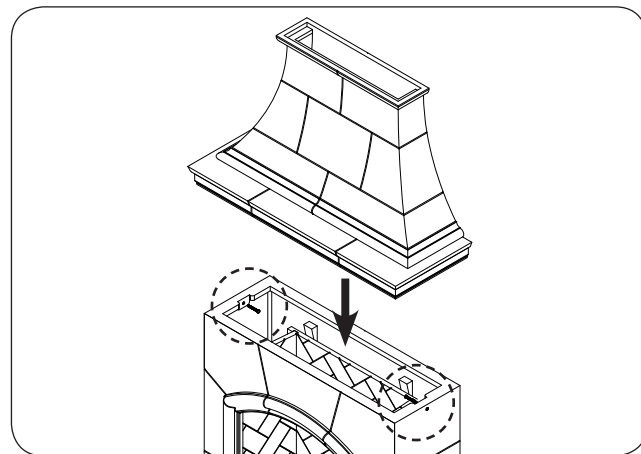
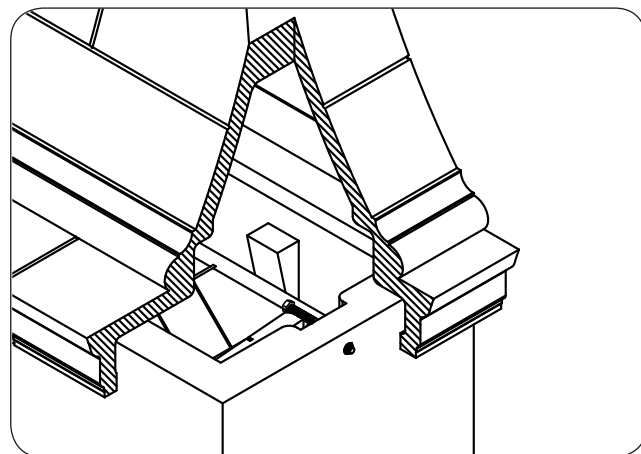

Fig. 21-1 Assemble chimney
Fig. 21-2 Bolt detail
1. Place the chimney piece on top of the body piece. See Fig. 21-1.
2. The left and right sides of the body interior each have a pre-installed bolt for securing the chimney. Reach up through the body and tighten the two bolts using a  $\frac{9}{16}$ " open end wrench (or equivalent). See Fig. 21-1 and Fig. 21-2.